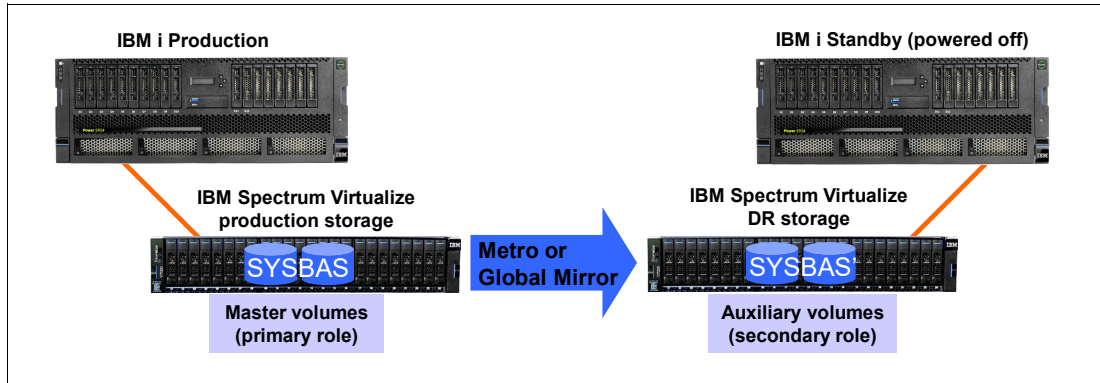

Figure A-3 IBM i full system replication with IBM Spectrum Virtualize
Full system replication is used for disaster recovery (DR) purposes where an IBM i standby server is used at the DR site as shown in Figure A-3. In case of a planned or unplanned outage for the IBM i production server, the IBM i standby server can be started (IPLed) from the replicated SYSBAS volumes after they have been switched on IBM Spectrum Virtualize to a primary role to become accessible for the IBM i standby host.